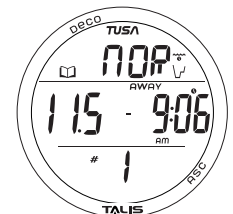

Fig. 49 - LOG PREVIEW
**Log Preview**, information includes (Fig. 49):